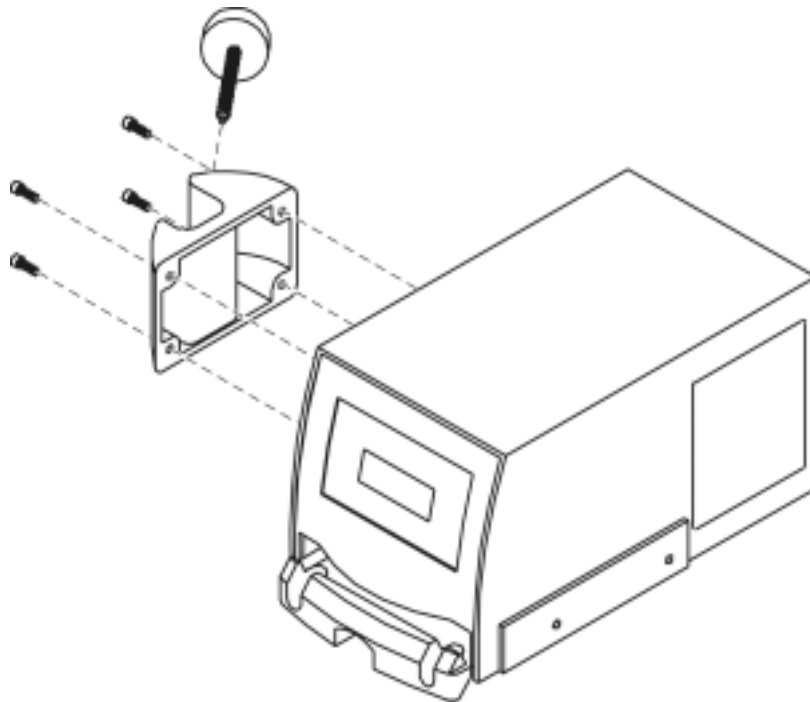

Figure 9: IV Mounting Bracket Removal
5. Remove the IV pole mounting bracket, using a 1/4 inch allen wrench. See Figure 9.